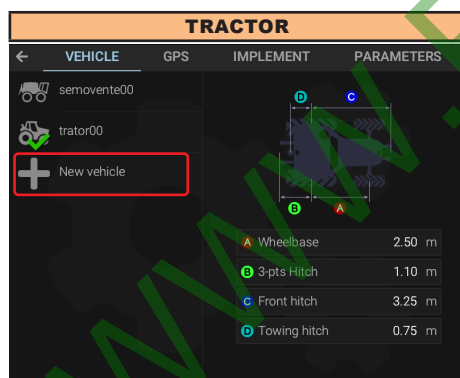

Fig. 39
- Press **New vehicle** (Fig. 39).